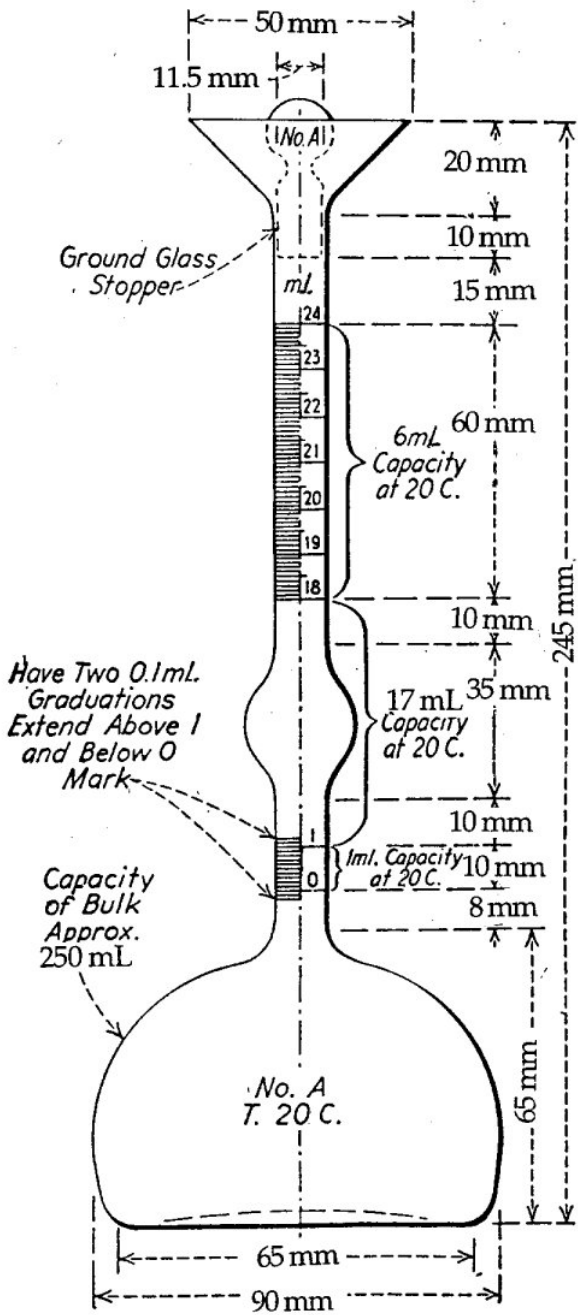

FIGURE 1. Flask for Specific Gravity Test
1. **Flask:** the standard LeChatelier flask conforming to the dimensions shown in Figure 1.